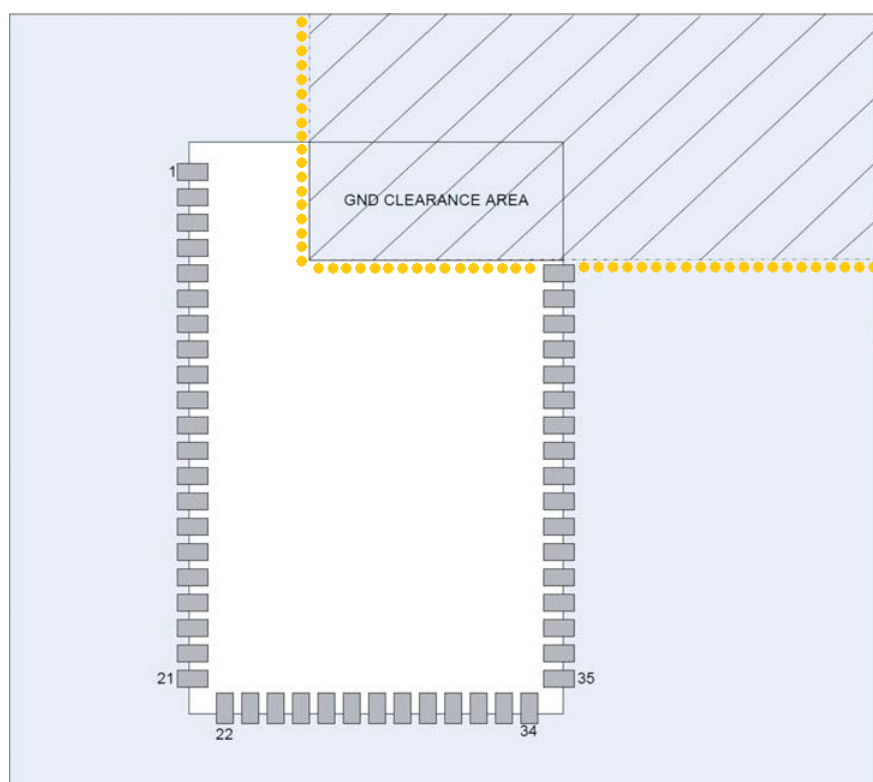

Figure 3-7: BC127 Application Placement Considerations
- The area under and adjacent to the right-hand side of the module should have all ground and tracking removed as shown in Figure 3-7, and the hashed area should be cleared to the edges of the application PCB in the top right-hand corner.